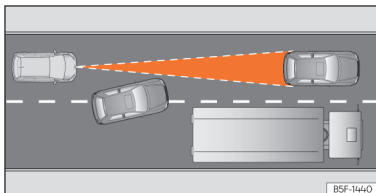

Fig. 119 Vehicle changing lanes.
- Vehicles that move into your lane, a short distance from your vehicle »» **Fig. 119**.